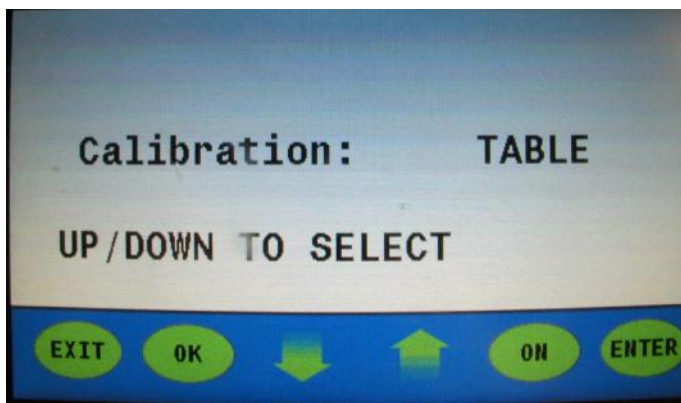

Figure 14
12. The display will read “Calibration: TABLE”. (**Figure 14**)